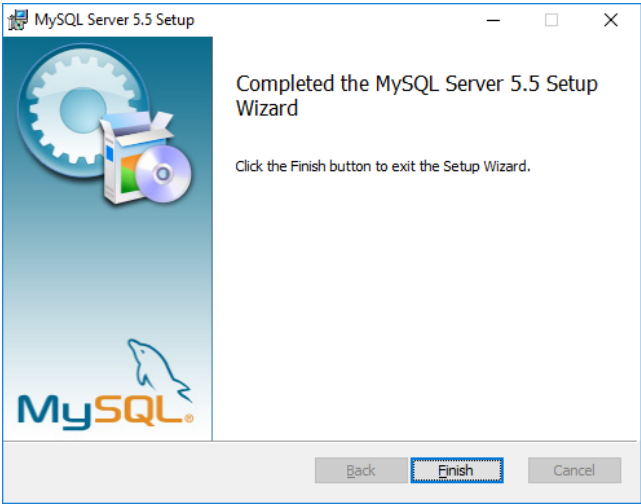

Figure A18
12. When the MySQL Setup Wizard has completed, click "Finish". (Figure A18)